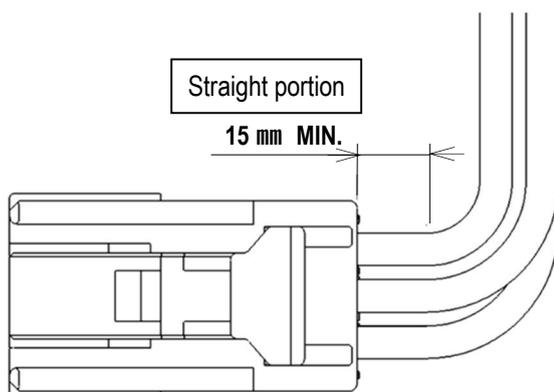

Fig 54. Arrangement of wires
- ① When arranging the wires horizontally, to avoid excessive stress to the sidewalls and female terminals, and the female terminal leaning in the core hole, please keep the wires straight (at least 15mm) from connector as shown in **Fig.54**
- ② Once straight portion is secured, arrange the wires with adequately large R.